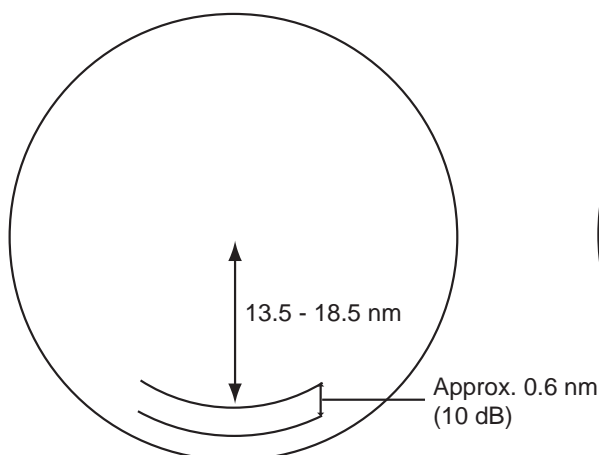

Fig.1
1. Adjust the GAIN control so that a slight amount of white noise appears on the screen. Arcs for performance monitor appear on the screen (Fig.1).